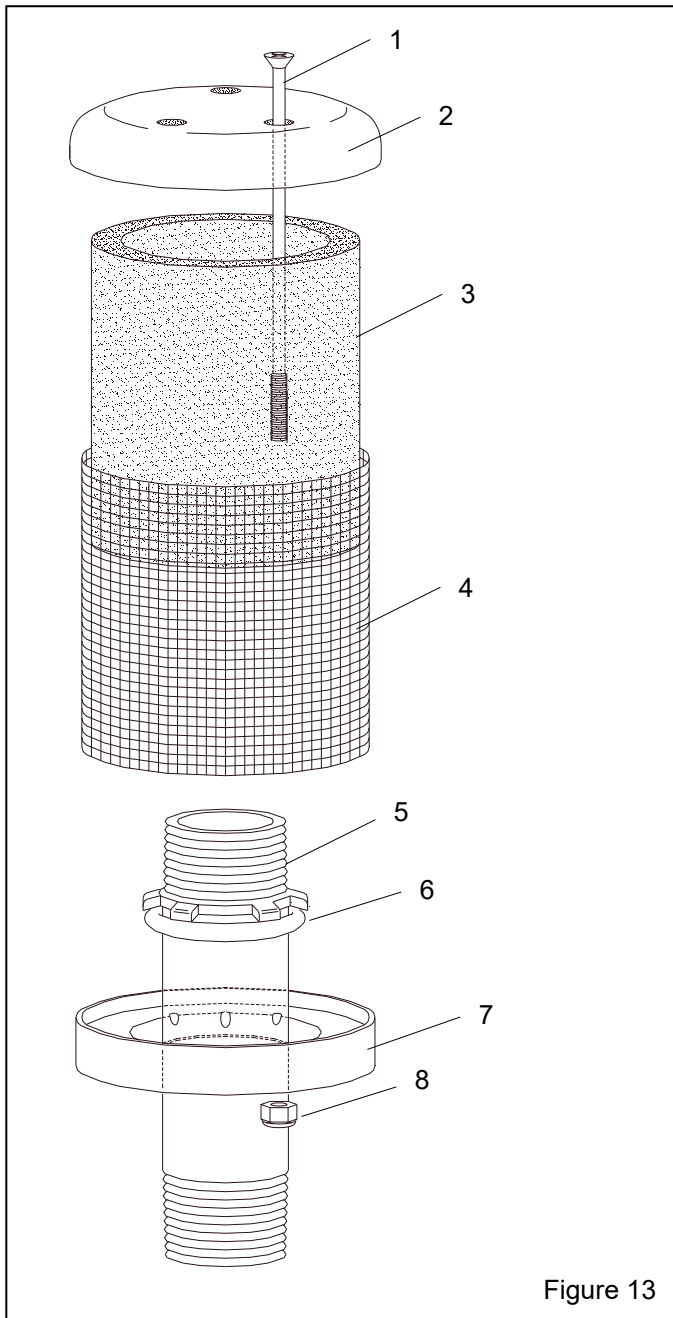

Figure 13
7.6 Exhaust Muffler, Figure 13